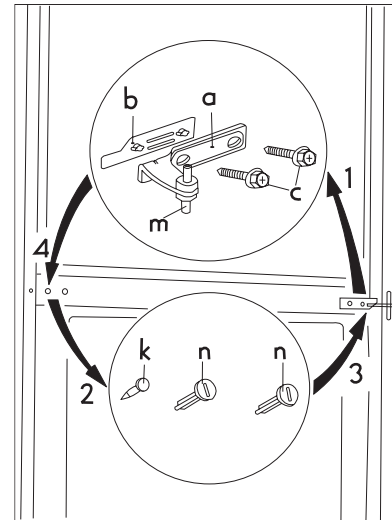

fig. 2.
- Open the doors and dismount the double door hinge (a, b) by removing the screws (2 pieces) (c). (fig.2)
- Take off the double door hinge (a, b, c) by gradually removing it from the cabinet, slightly tilting both doors. Do not forget to remove the plastic spacer (b) under the hinge. (fig.2)
- Remove the covering nails (3 pieces) (n, k) of the double door holder on the left side and put them to the other side. (fig.2)
- Fit the pin of the double door hinge (m) into the left drill of the freezer door. (fig.2)